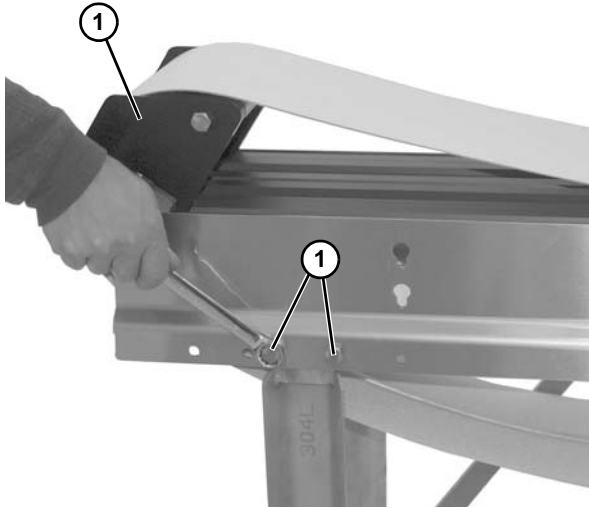

Figure 32
3. Rotate idler tail end (Figure 32, item 1) of conveyor upward as shown.
4. Remove two cap screws (Figure 32, item 2) holding stand to conveyor.